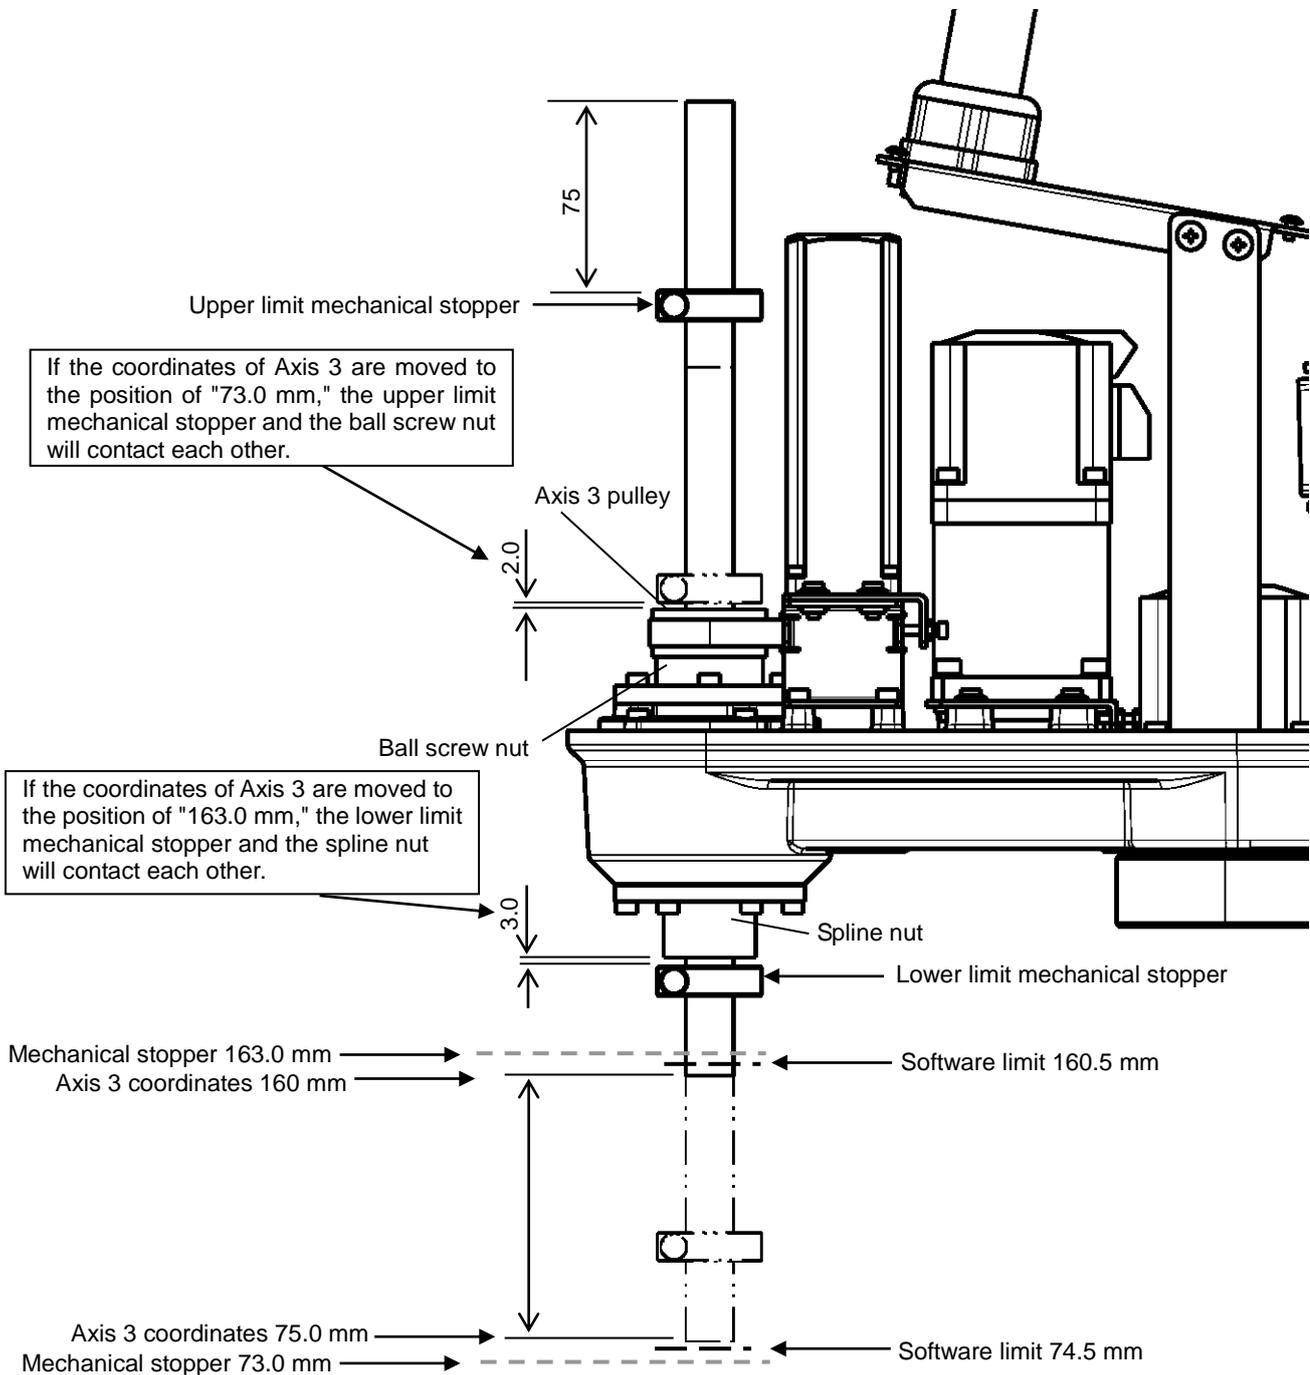

Fig. 5.8 Changing the Operating Range of Axis 3 (KHL-300 and KHL-400)
- 3) When the mechanical stoppers are changed, be sure to also change the software limits. Regarding how to change software limits, see Para. 5.2.4 and Fig. 5.8. After changing the software limit, while pressing the axis 3 brake release switch, move Axis 3 manually, and make sure that the software limit is correctly set.
Fig. 5.8 shows the settings of the operating range when the upper limit mechanical stopper is moved 75 mm downward.